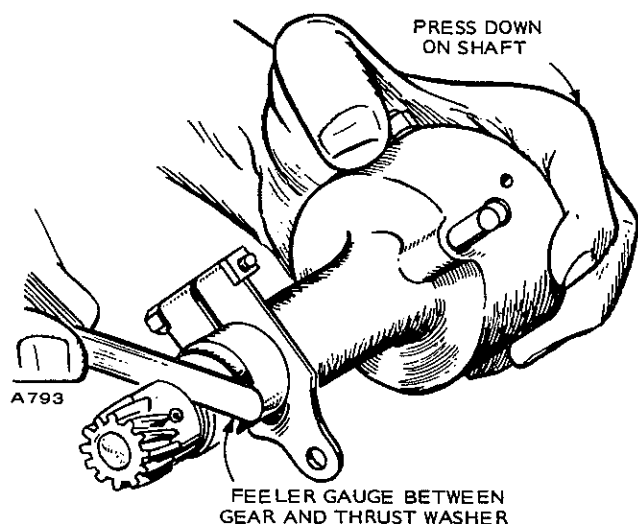

FIGURE 10-59. CHECKING DRIVE SHAFT END PLAY
2. Check drive shaft end play, Figure 10-59. It should be between .003 and .010 inch (0.08-0.25 mm). If end play is too small, tap lower end of distributor drive shaft lightly with a soft hammer to increase play. If it is too great, check thrust washer installation or reinstall gear.
The condenser is mounted on the outside of the distributor, Figure 10-59. Capacitance should be .25 to .28 mfd.